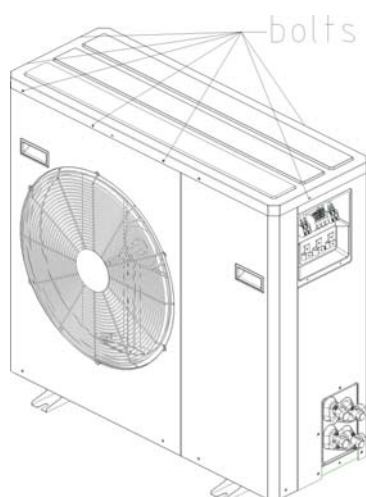

figure4
4. Loosen the bolt of fixed Top cover board. as shown in figure 4. take down Top cover board